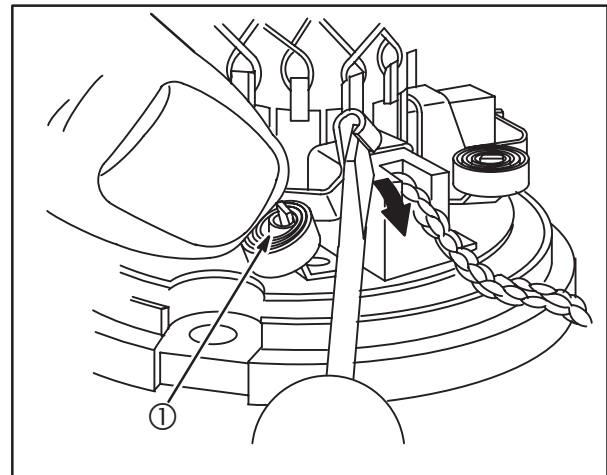

Fig. 21
3. Position coil spring over tab (1), **Fig. 21**.